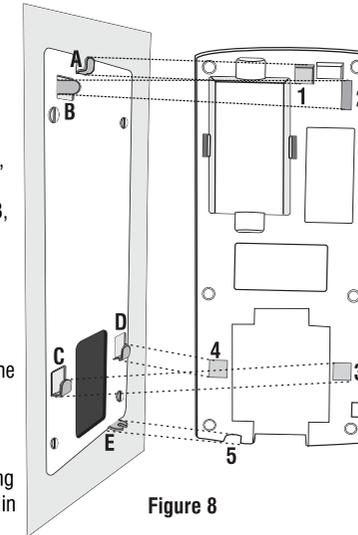

Figure 8
- Match the mounting hooks (A, B, C, D, E) on the plate with the respective mounting slots (1, 2, 3, 4, 5) at the back of the device. Refer Figure 8.
- Use the M 3x6 screw provided to you to secure the bottom mounting slot on the plate. Match E to 5 as in Figure 8.